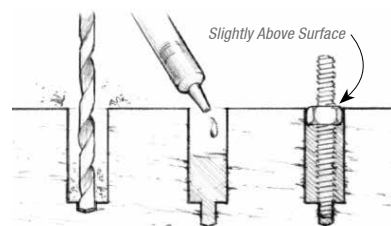

Figure 20 Bond threaded rods or studs into the substrate as an alternative for easily removable hardware.
3. Wet out the lower end of the stud and push it into the epoxy filled hole. Top off the hole or clean away excess as necessary. Allow the epoxy to cure thoroughly before attaching hardware and tightening the nut (Figure 20).